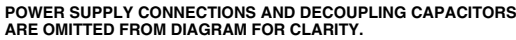

Figure 28. Direct Conversion Transmitter Solution
In some applications a direct conversion architecture can be used in base station transmitters. Figure 28 shows the combination available from ADI to implement this solution.
The Local Oscillator (LO) is implemented using the ADF4117/ADF4118. In this case, the OSC 3B1-13M0 provides the stable 13 MHz reference frequency. The system is designed for a 200 kHz channel spacing and an output center frequency of 1960 MHz. The target application is a WCDMA base station transmitter. Typical phase noise performance from this LO is -85 dBc/Hz at a 1 kHz offset. The LO port of the AD8346 is driven in single-ended fashion. LOIN is ac-coupled to ground with the 100 pF capacitor and LOIP is driven through the ac-coupling capacitor from a $50\ \Omega$ source. An LO drive level of between -6 dBm and -12 dBm is required. The circuit of Figure 28 gives a typical level of -8 dBm .
The RF output is designed to drive a $50\ \Omega$ load but must be ac-coupled as shown in Figure 28. If the I and Q inputs are driven in quadrature by 2 V p-p signals, the resulting output power will be around -10 dBm .